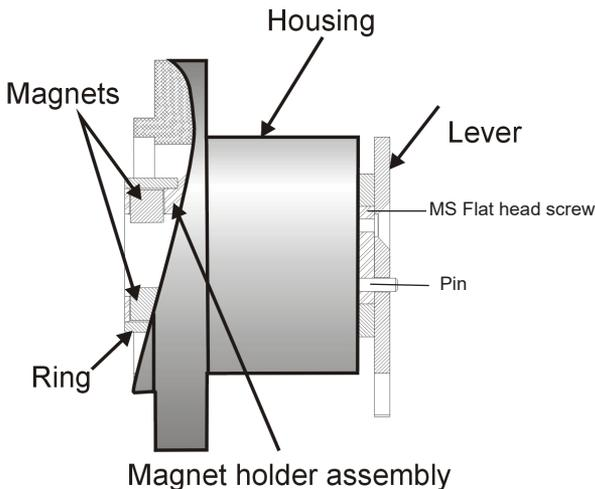

Figure 14 - Magnet Holder for Reciprocating Valves
1. Ensure that the lever is pinned to the magnet assembly and held securely by an M5 flat head screw to ensure that the magnet axis is vertical when the lever is in the valve closed position. Tighten the lever screw securely. Refer to Figure 14.